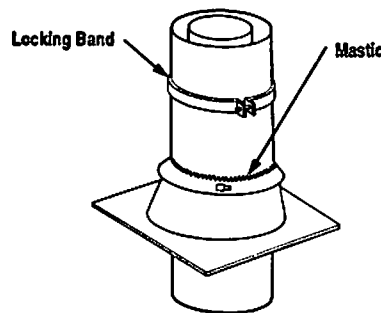

Figure 30
Step 9. Superior locking bands, Models 8LB or 10LB, may be required if the chimney extends too high above the roof flashing. As a general rule, if the chimney extends more than 6' (1.8m) above the roof flashing, the use of locking bands is advisable to strengthen the chimney joints. Align the locking band at the pipe joint. Locking bands wrap around pipe joints equally covering the joints of both pipe sections. Use nut provided and TIGHTEN snugly. Do not over tighten as this might damage chimney section (Figure 30).